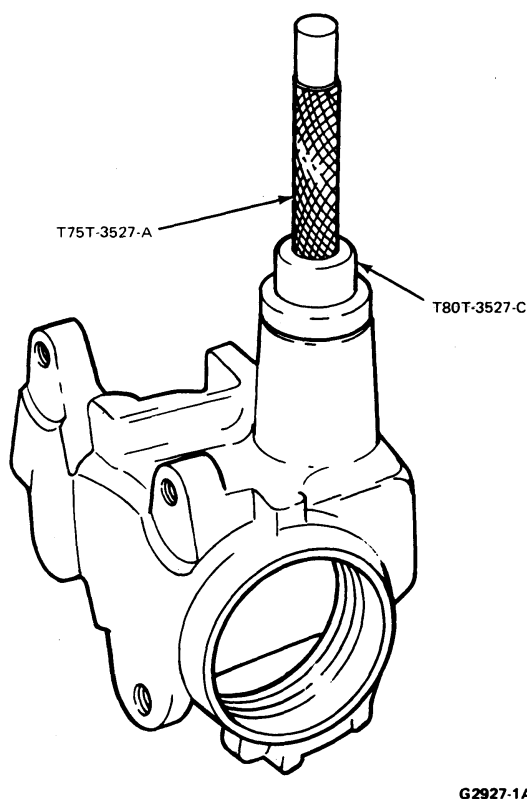

FIG. 12 Installing Sector Shaft Seal
2. To replace the sector shaft and seal, use Tools T75T-3527-A and T80T-3527-C (Fig. 12). Make certain that the undercut in the Tool T80T-3527-C is toward the seal. Drive seal until tool bottoms on housing.